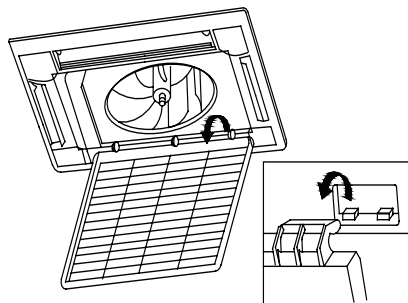

Fig.20
- (1). Open the air inlet grille. (Refer to the first step of "Clean Air Filter" above.)
- (2). Take out the air filter. (Refer to the second step of "Clean Air Filter" above.)
- (3). Take out the air inlet grille. Open the air inlet grille at an angle of 45°, as shown in Fig.20 and lift it.
- (4). Clean it with a soft, short-haired brush, water and neutral cleanser. Then dry it.